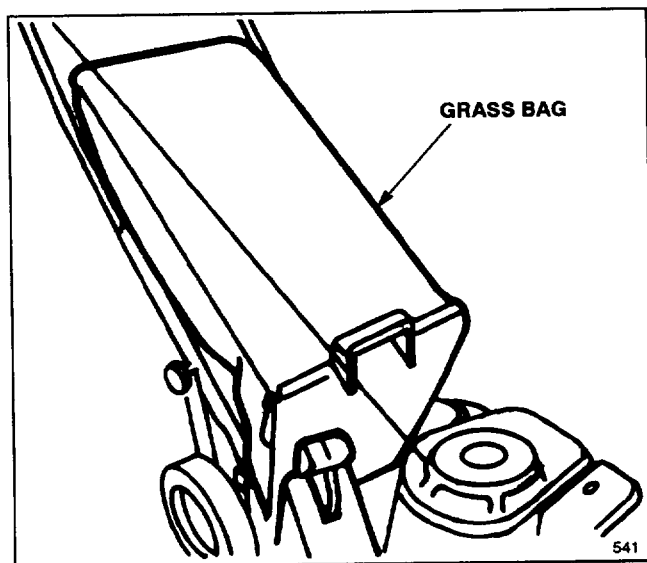

Figure 20
1. Rear Bagging Kit, Model No. 59279—Install discharge tunnel and rear mounting grass bag to convert the Recycler®II mower to a rear bagging mower (Fig. 20). Includes discharge tunnel plug.